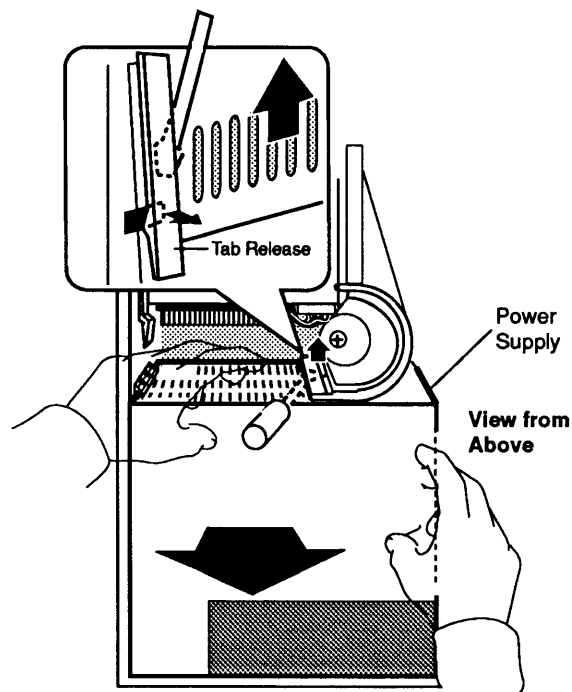

Figure 2-4 Power Supply
3. While holding the underside of the power supply with your right hand, slide the screwdriver along the tab release (as shown in **Figure 2-4**). The screwdriver will release the tab that holds the power supply in place.